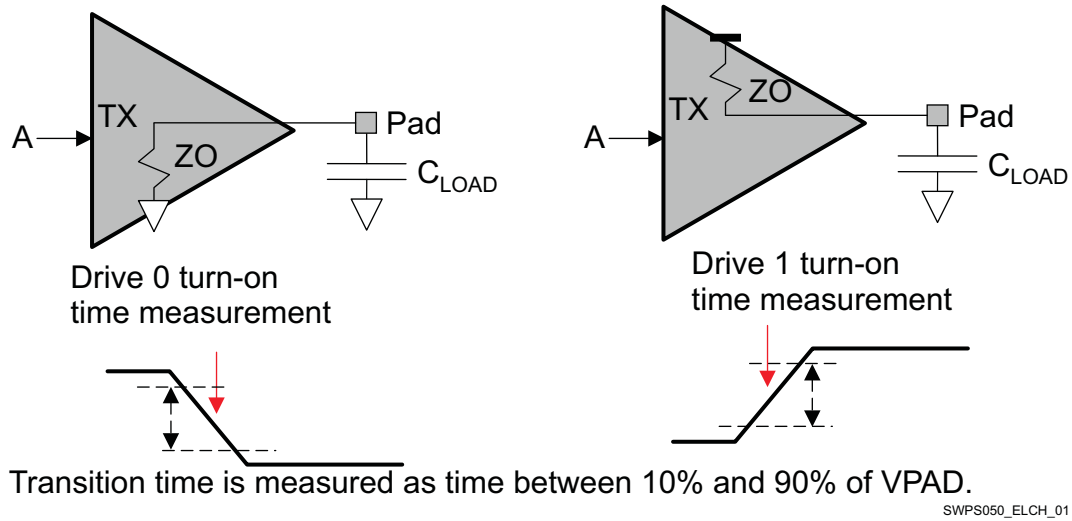

Figure 4-1. Output Transition Time Measurement
(1) vddx_dds3 can have the value vdds_dds_ch1, vdds_dds_ch2, vddq_vref_dds3, or vddq_vref_dds3 depending on the ball used. For more information on the power supply name and the corresponding ball, see Table 3-1, POWER NAME [9] column.
(2) vddq_vref_dds3 can have the value vddq_vref_dds3 or vddq_vref_dds3 depending on the ball used. For more information on the power supply name and the corresponding ball, see Table 3-1, POWER NAME [9] column.
(3) Output transition time or turn-on time is measured with the measurement setup (see Figure 4-1) with Z_O = 40 Ω and C_{LOAD} = 5 pF (lumped, no transmission line model).
- (4) The ODT register can configure the on-die termination impedance. For more information, see the Device TRM.
- (5) It is recommended to use 34 Ω and 40 Ω for actual use cases, for optimum performance.